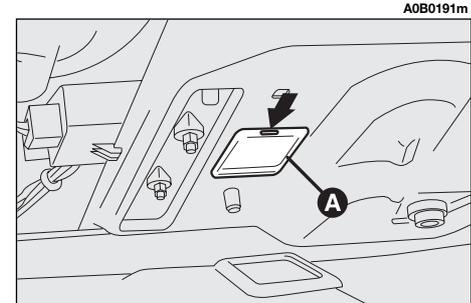

fig. 65
- Withdraw the clear plastic cover and bulb (**A-fig. 65**) using a flat-bladed screwdriver.